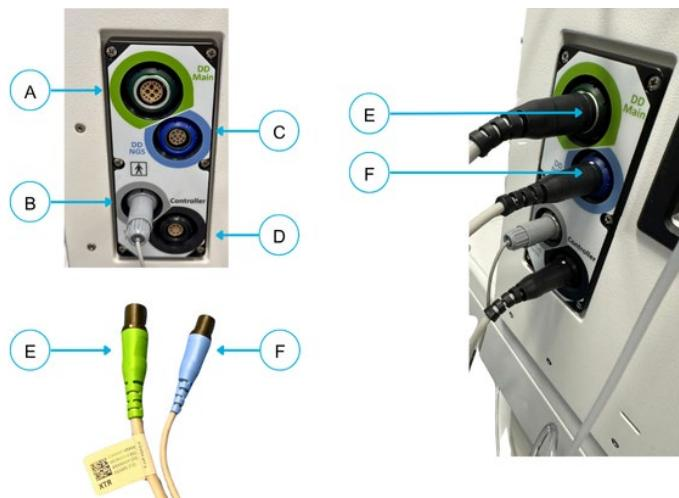

Figure 11-8: Delivery Device to Generator Connections
1. Connect the two ends of the split cable to the side of the Generator (**Figure 11-8**).